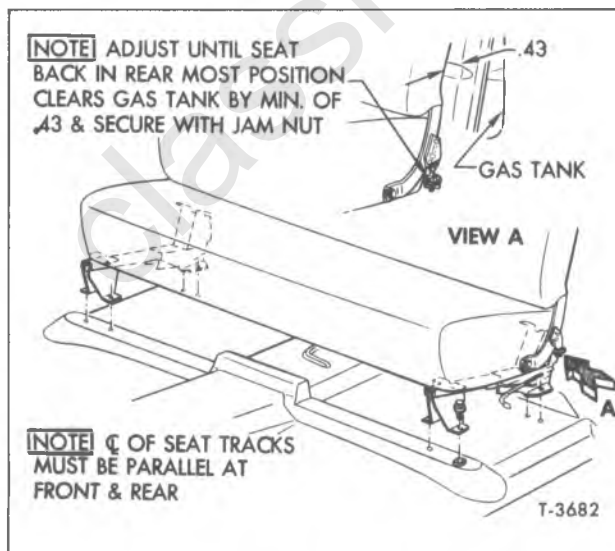

Figure 7—Front Seat Installation
1. Remove four cap screws and washers which attach each seat to cab floor (fig. 7).